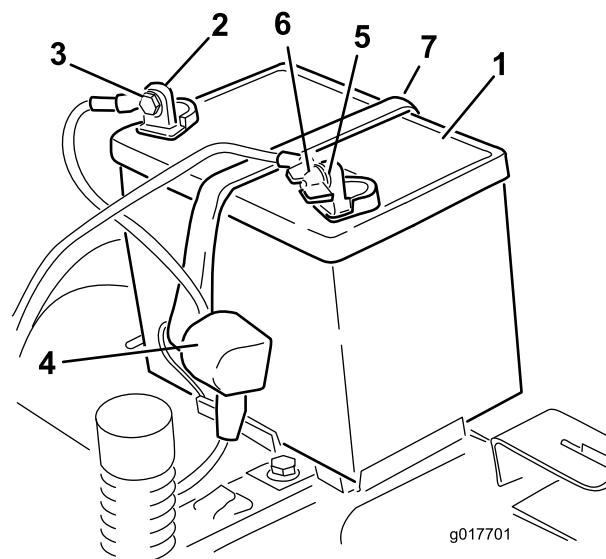

Figure 40
4. Disconnect the negative (black) ground cable from the battery post (Figure 40). Retain all fasteners.
5. Slide the rubber cover up the positive (red) cable. Disconnect the positive (red) cable from the battery post (Figure 40). Retain all fasteners.
6. Remove the battery hold-down (Figure 40) and lift the battery from the battery tray.
1. Position the battery in the tray (Figure 40).
5. Secure the battery with the hold-down (Figure 40).